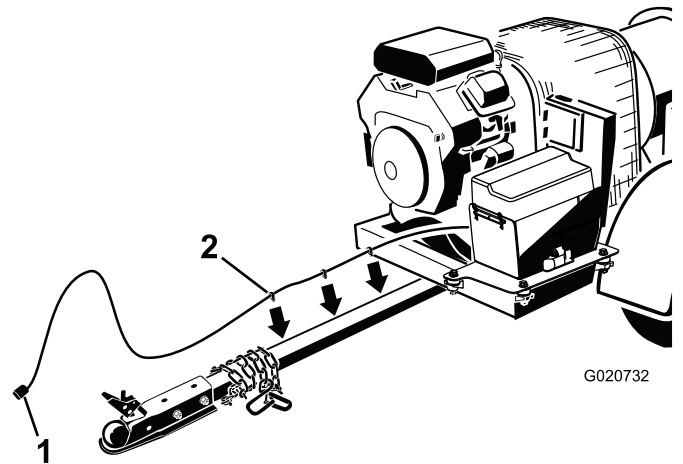

Figure 6
3. Route the wire harness along the right side of the hitch tube (Figure 6).
4. Plug the harness clips into the holes in the side of the hitch tube to secure it (Figure 6).